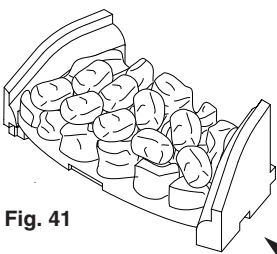

Fig. 41
4. Carefully remove all the loose coals, side cheeks, rear and front coals (Fig. 41).